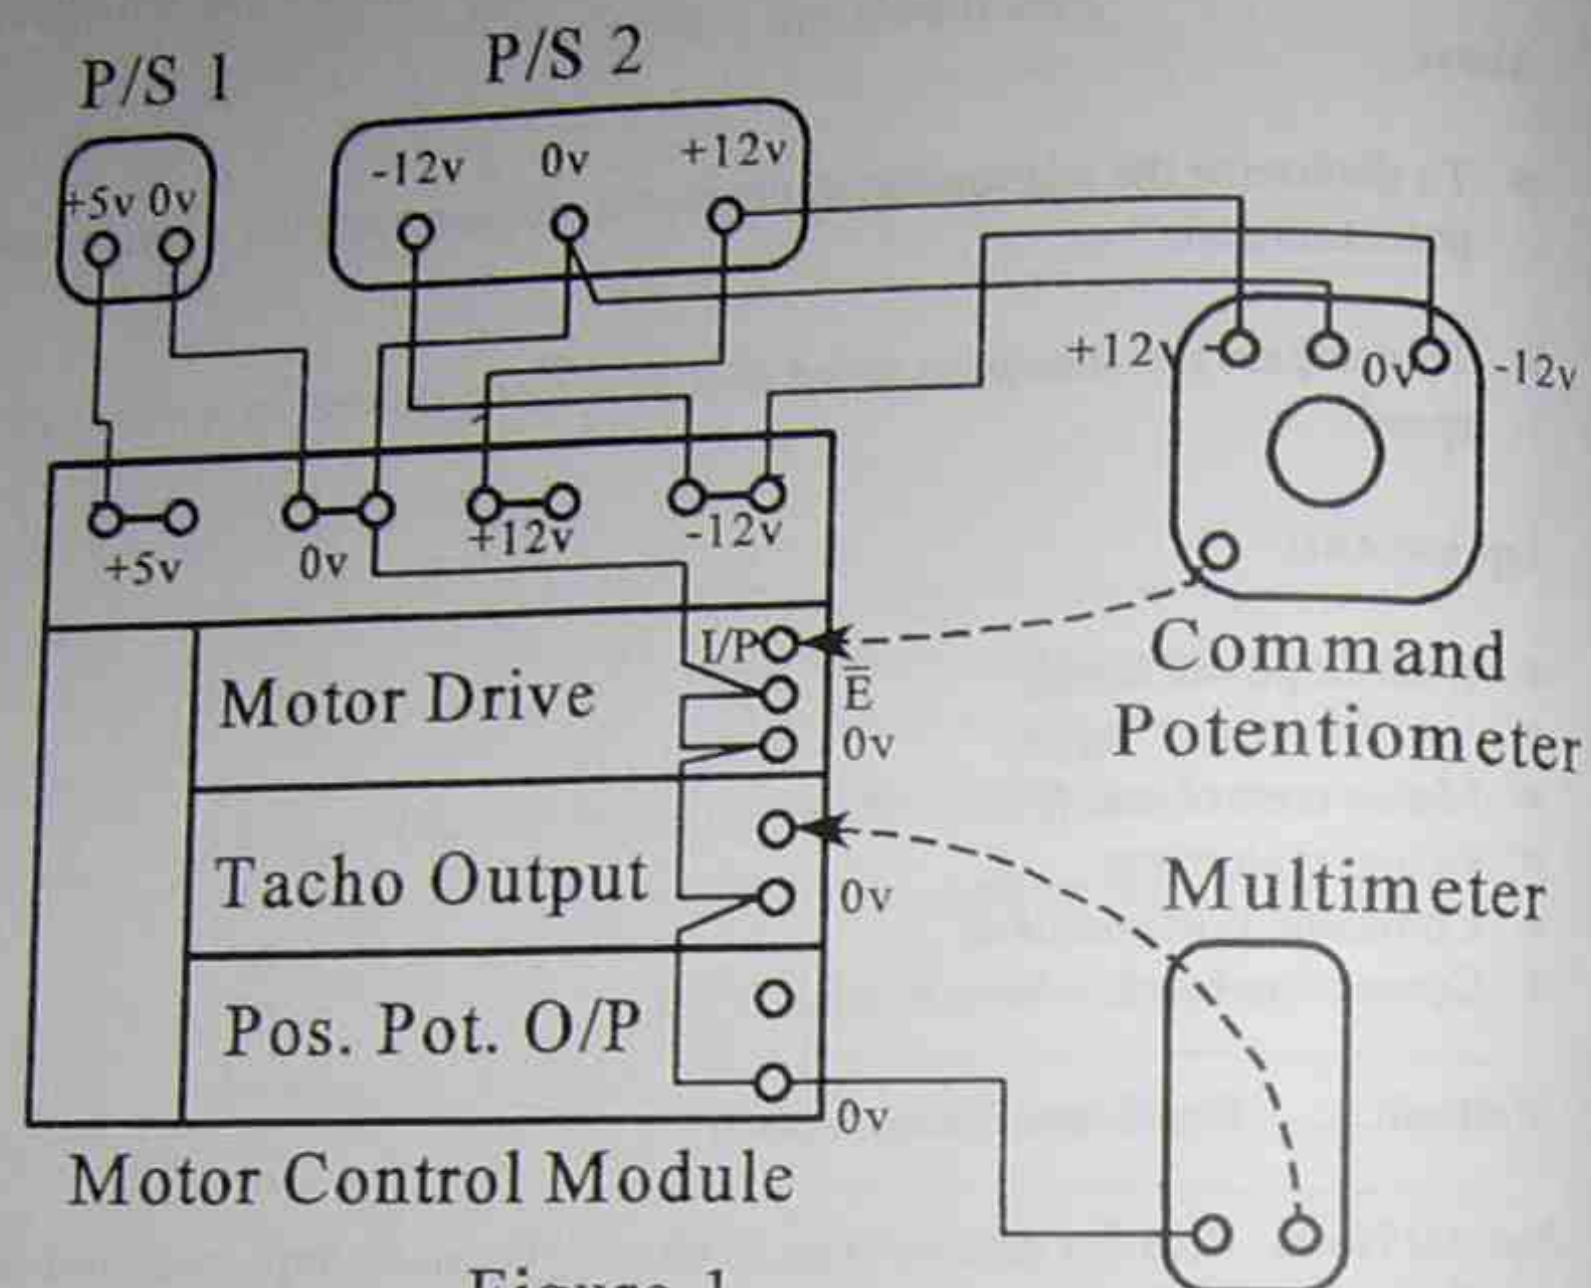

Figure 1
- (b) Connect the circuit as shown in Figure 1. (Have the teacher check the circuit)